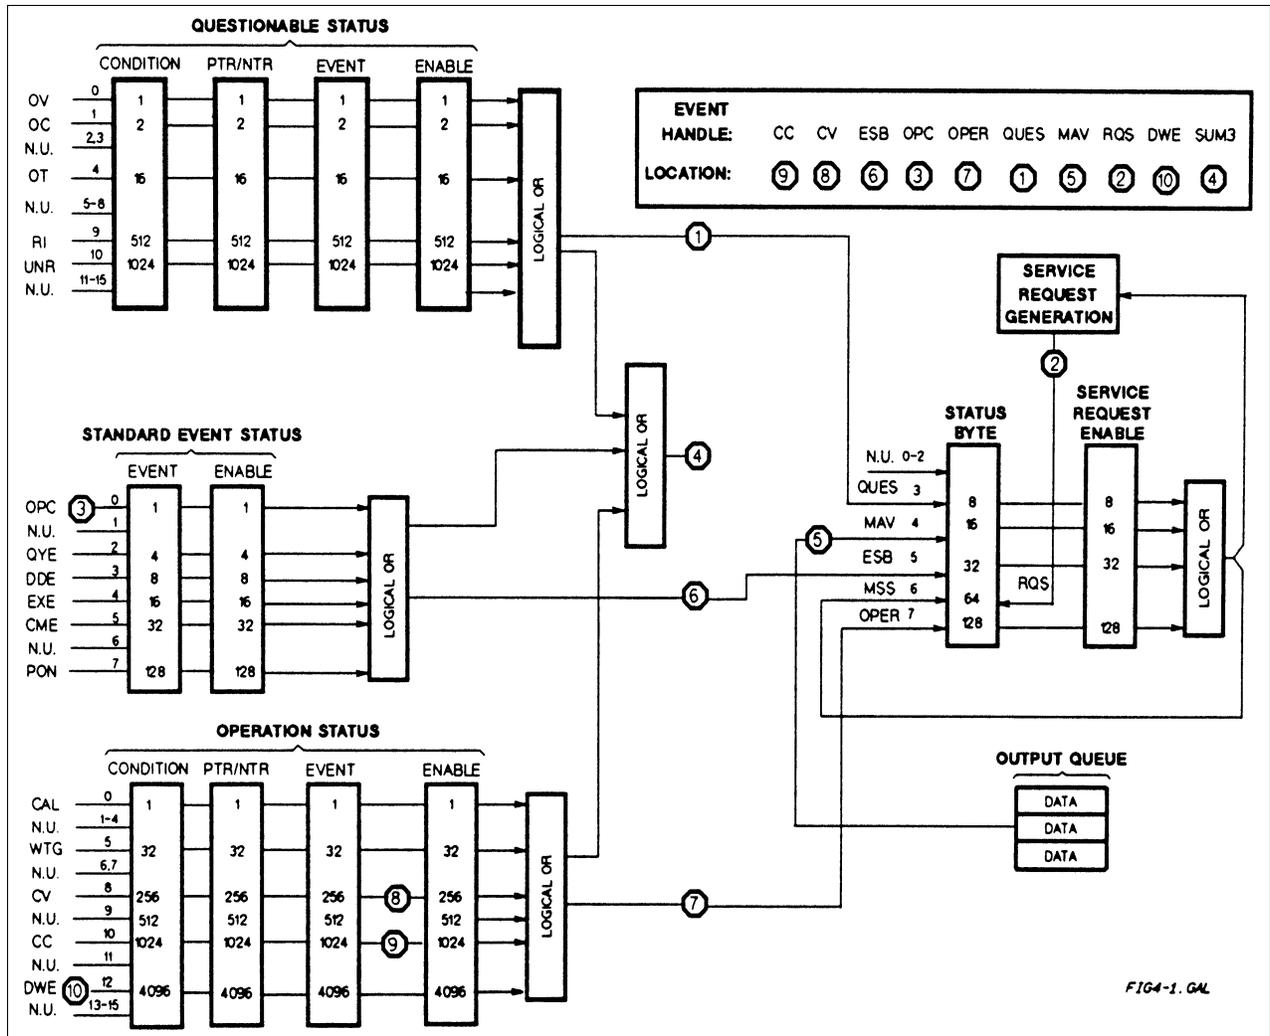

Figure 4-1. Power Module Status Model
Figure 4-1 shows the status register structure of the power module. The Standard Event, Status Byte, and Service Request Enable registers and the Output Queue perform standard GPIB functions as defined in the *IEEE 488.2 Standard Digital Interface for Programmable Instrumentation*. The Operation Status and Questionable Status registers implement status functions specific to the power module.
Table 4-2 and Figure 4-1 show the bit configuration of each status register.
The Questionable Status registers record signals that indicate abnormal operation of the power module. As shown in Figure 4-1, the group consists of the same type of registers as the Status Operation group. The outputs of the Questionable Status group are logically-ORed into the QUES(tionable) summary bit (3) of the Status Byte register.
"Event handles" are signals within the interface that can be used for triggers, for a Trigger Out signal, or for a DFI signal. Those event handles derived from signals in the Status Subsystem are shown as circled numbers in Figure 4-1. Other event handles are described in "Chapter 5 - Synchronizing Power Module Output Changes".
This example assumes you want a service request generated whenever the power module switches to the CC (constant current) mode. From Figure 4-1, note that the required path is for a condition at bit 10 (CC) of the Operation Status register to set bit 6 (RQS) of the Status Byte register. The required register programming is as follows: